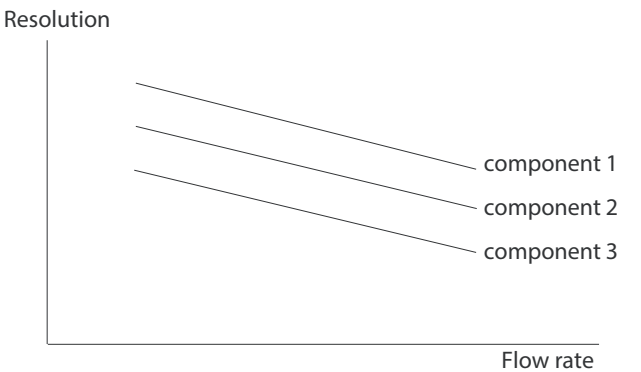

Fig 4.
3. If necessary, resolution can be increased by reducing the flow rate (Figure 4, on page 3).